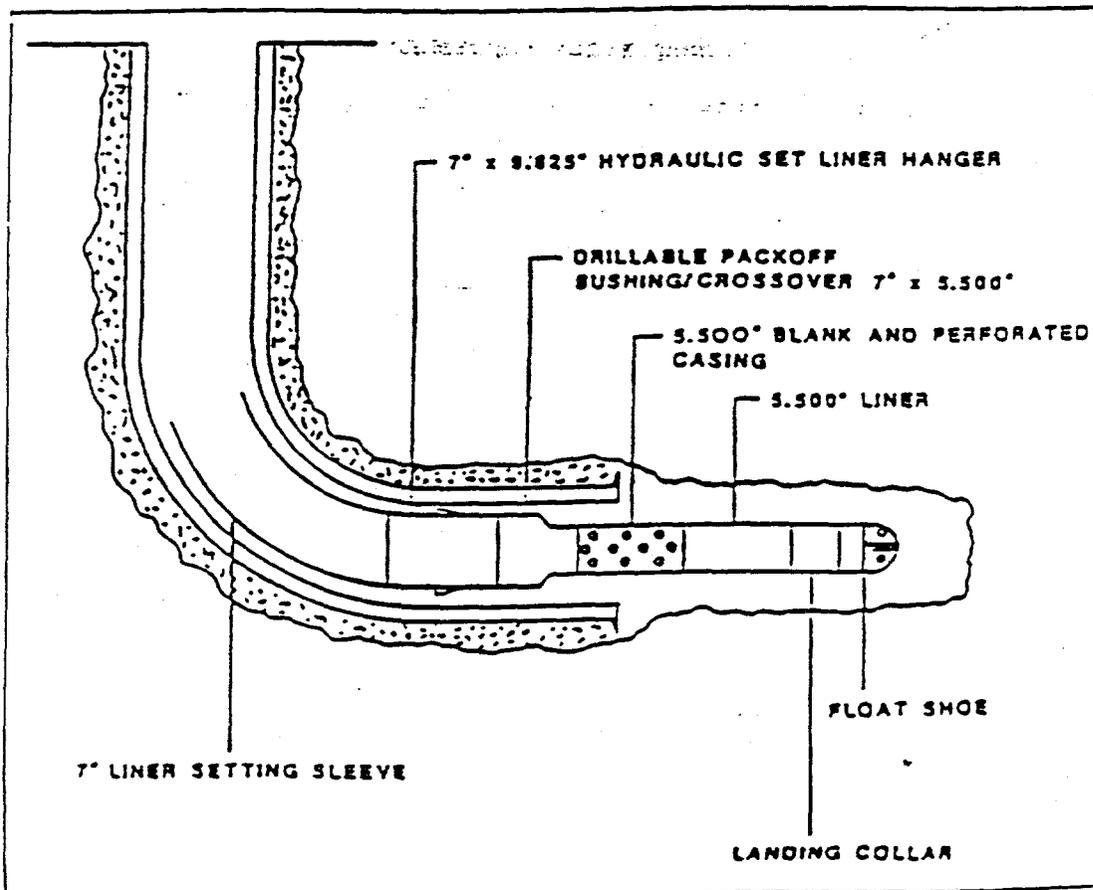

Figure 5.5 -- Perforated liner completion in North Sea horizontal well.
4. Cemented and Perforated Liners: It is possible to cement and perforate medium and long radius wells. As noted earlier, at the present time, it is not possible to cement short radius wells. Cement used in horizontal well completion should have significantly less free water content than that used for vertical well cementing. This is because, in a horizontal well, due to gravity, free water segregates near the top portion of the well and heavier cement settles to the bottom, resulting in a poor cement job. To avoid this it is important to conduct a free water test for cement at 45° instead of the conventional API free water test. An example (from the North Sea) is shown in Figure 5.5.